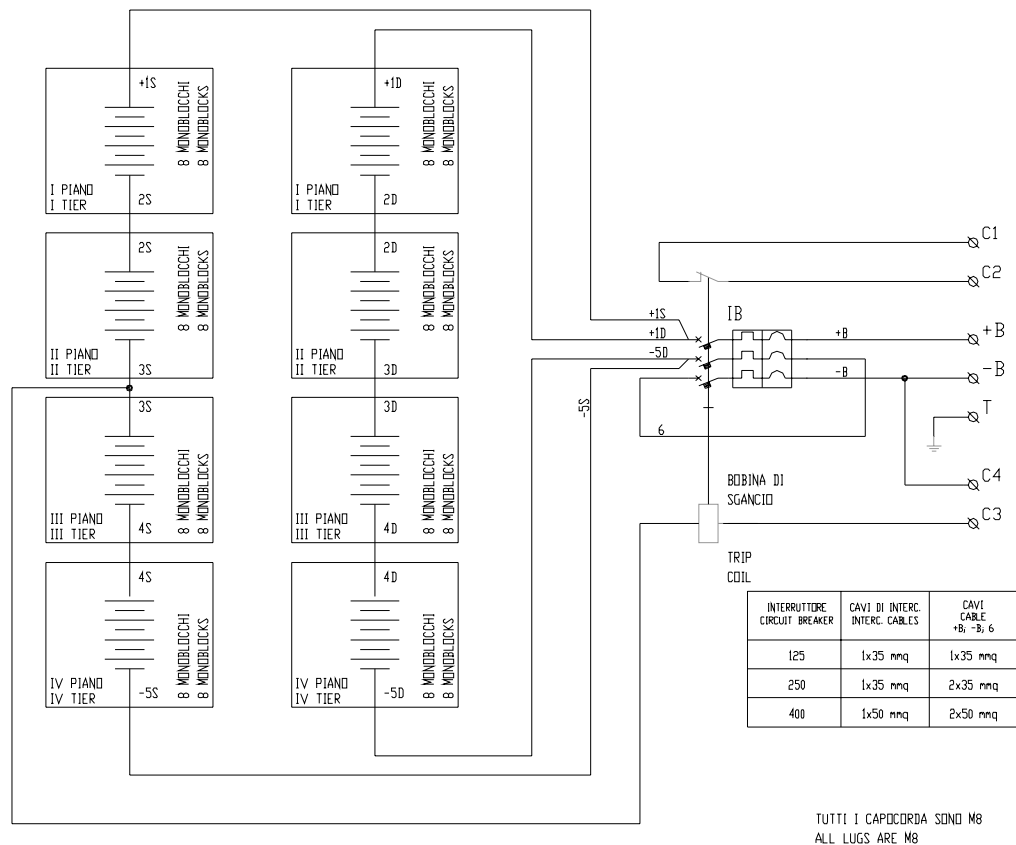

FIG. 1.16.12.1 BC4HD 2X32 internal electrical connections
- Connect the battery blocks of the various levels to the IB battery switch, and the IB to the terminals, as shown in fig. 1.16.12.1.